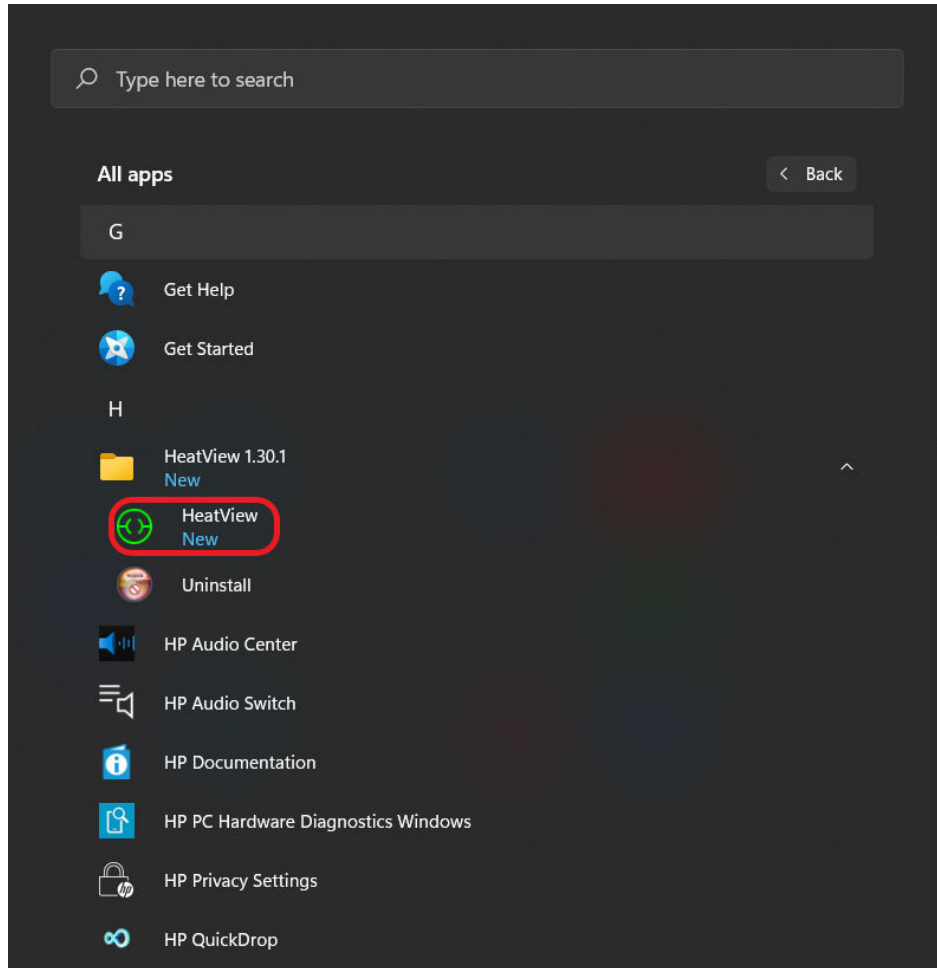

Figure 14: Windows® 11 – ‘Start Menu’ folder location
3. Scroll through the alphabetical list of programs until you find a folder called "HeatView X.XX.X" (where X.XX.X is the version number) or whatever name you gave this folder during step 4 of the installation procedure on page 14. Click on this folder – in this example it is titled "HeatView 1.30.1" – to expand it and find the icon for the HEAT VIEW computer application, which is highlighted in Figure 14 on the next page. Clicking this icon will launch the HEAT VIEW computer application.